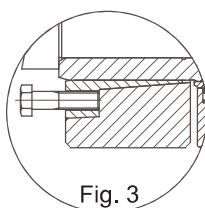

Fig. 3
- If the coupling rings do not come apart spontaneously after unscrewing the bolts, transfer some of the bolts (two bolts at 180° - four bolts at 90°) into the internal ring extraction holes (see fig. 3).